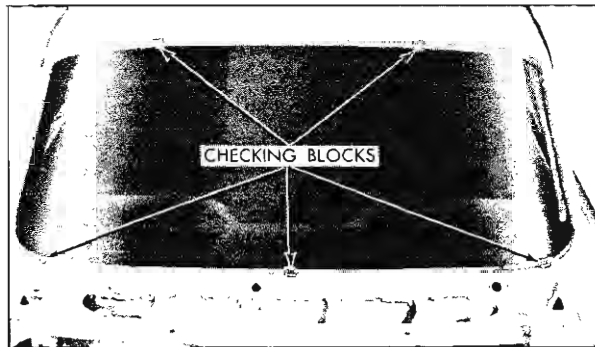

Fig. 2-7 Windshield Opening Check Blocks
4. Install five (5) windshield checking blocks as follows: along lower retaining flange place one (1) block twelve inches (12") inboard of each lower corner and one (1) at center of windshield opening. Position one (1) block over upper pinchweld flange midway between center block and each outboard block on lower retaining flange. Fig. 2-7.
NOTE: Windshield checking blocks (J-8942) may be used as shown in Fig. 2-7.